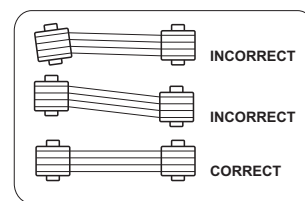

FIGURE 20
- C. Verify the tension of the belt (Figure 19) and the alignment (Figure 20) for models CSV 15 and CSV 20. The tension at the middle point yields 3/8" through 1/2" on manual force being or weight of 4,0 kg (1,8 lbs) applied at the mid-point. In order to check the deflection, remove the belt cover. After the inspection reassemble the protector, fixing the screws as per Table 4.